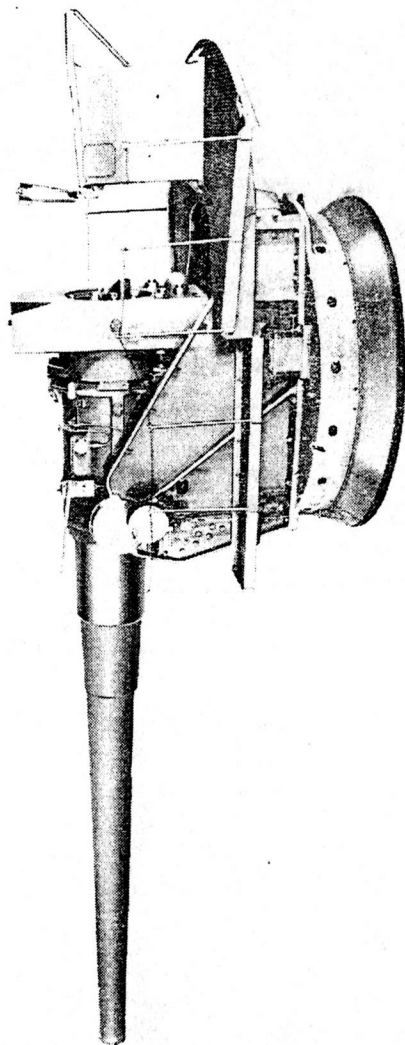

FIGURE 1.—8-inch gun and barbette carriage—left side.
■ 1. SCOPE.—a. This manual prescribes the service of the piece for the 8-inch gun, Mark VI, Modification 3A2, on barbette carriage M1 (see figs. 1 and 2). The duties of the members of the gun section in the service of the piece are contained in section III and in the drill table, section IX.